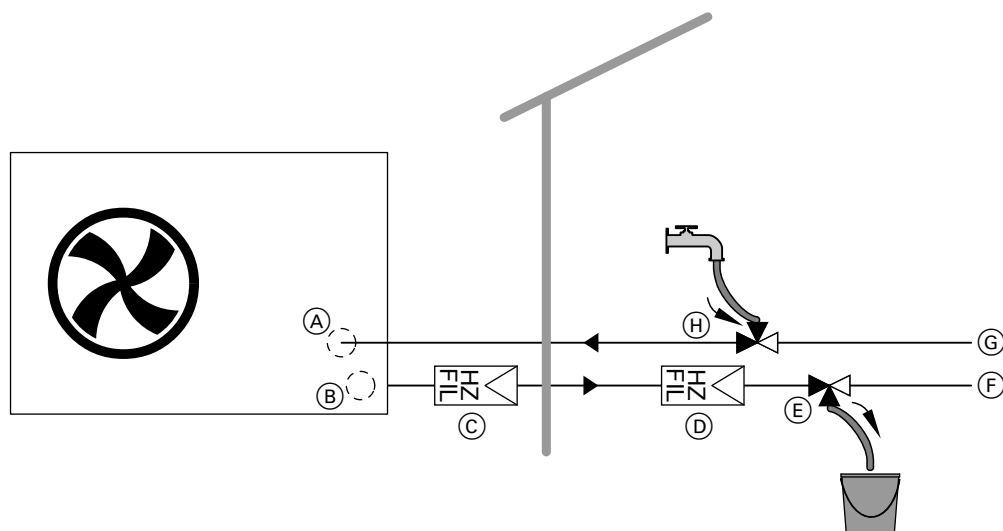

Fig. 36
Once all dirt/contamination has been removed, the additional heating filter in the heating water return of the outdoor unit (C) in Fig. 36 can be removed.